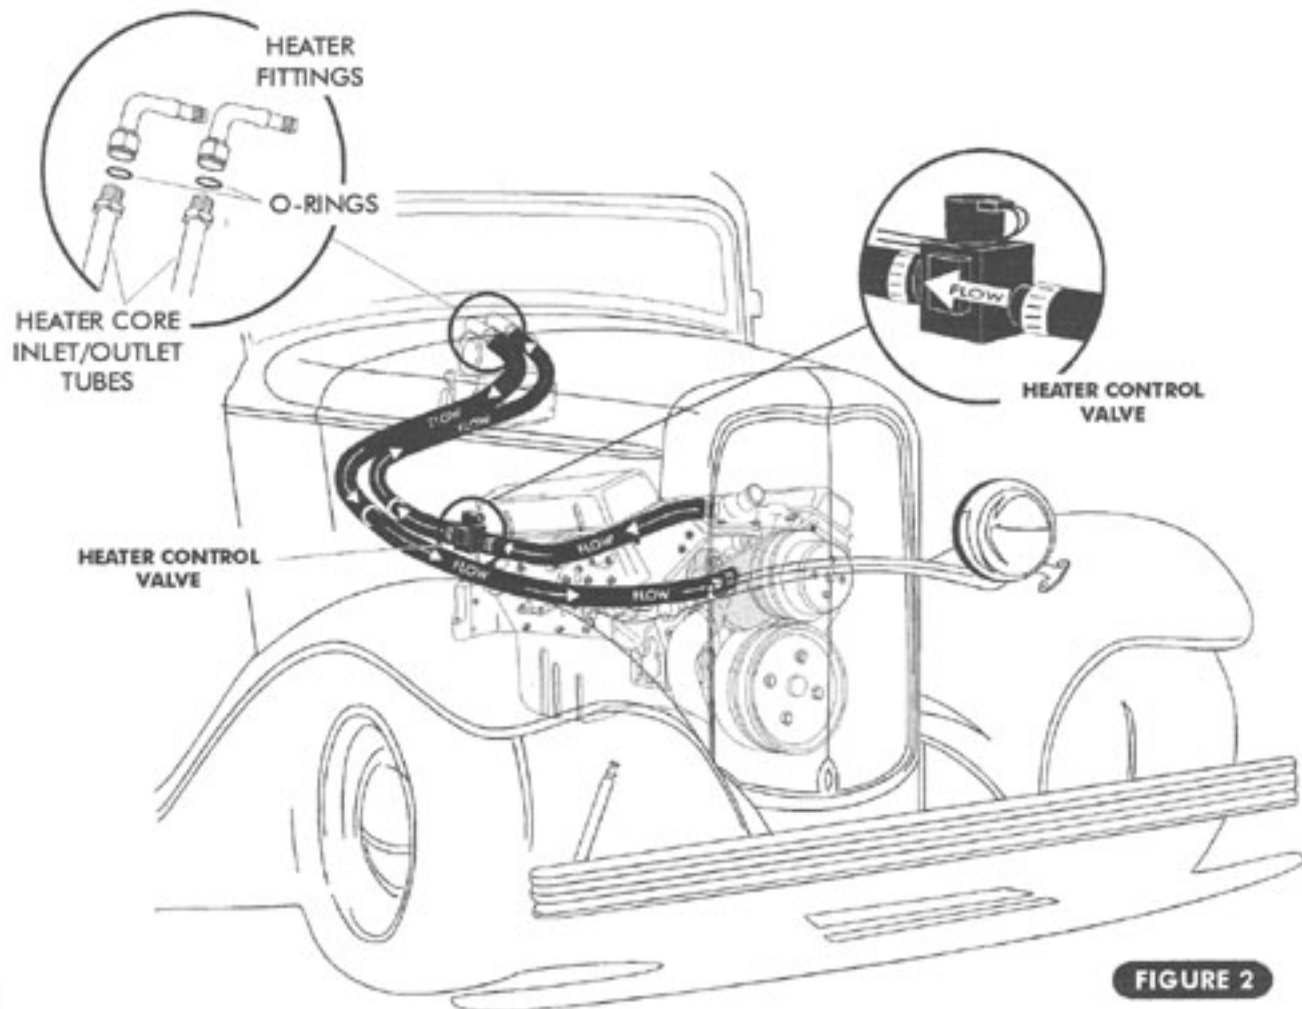

FIGURE 2
- INSTALL HEATER FITTINGS WITH O-RINGS(LUBRICATED) TO HEATER CORE. SEE FIGURE 2, BELOW
- AFTER THE HEATER IS IN PLACE, RUN 5/8" HEATER HOSE FROM THE LEFT HEATER FITTING THRU FIREWALL OR BEHIND KICK PANEL THRU FLOOR TO THE INTAKE MANIFOLD HEATER CONNECTION. INSTALL THE ELECTRIC HEATER CONTROL VALVE IN THIS LINE. SEE FIGURE 2.